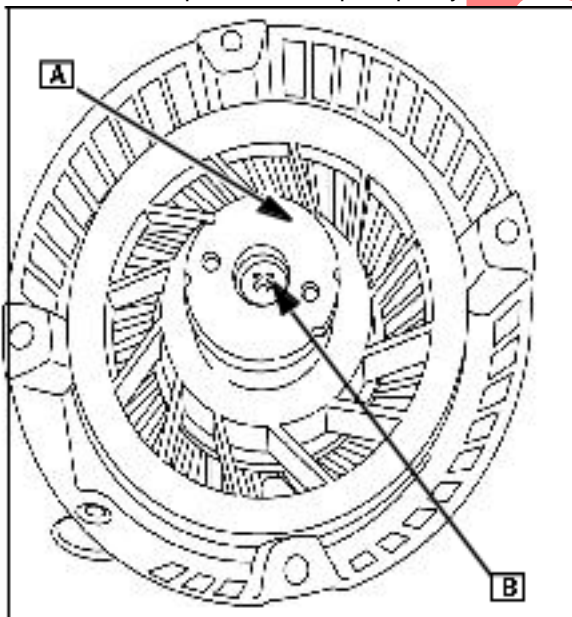

Fig. 27
Place retainer (A) on brake spring and partially tighten retainer screw ([B] Fig. 27). Pierced holes on retainer must be between pawls and stop on pulley.